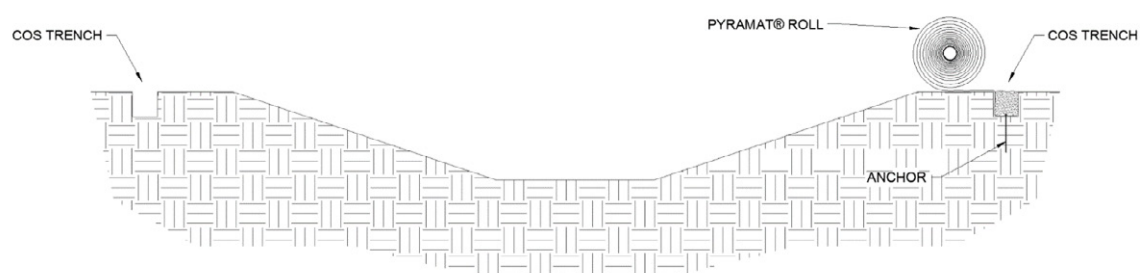

Figure 9: Top of Bank (COS) trench placement
7. Secure **PROPEX** Pyramat with pins in the COS trench (Figure 9). Suggested placement of pins for the COS trench is along the bottom of the trench on 12 in (300 mm) centers. Pins should also be installed on panel edge overlaps in the COS trench.
8. Backfill and compact the COS trench in the location of the first panel only (Figure 9).